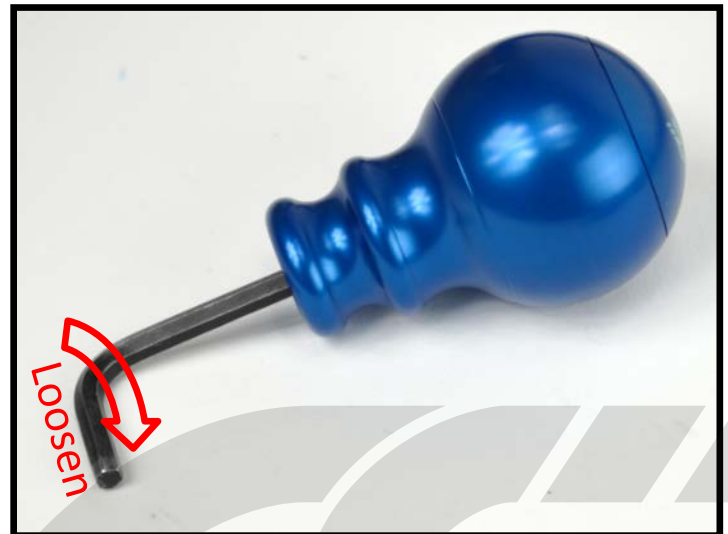

Figure 1a
b) Unscrew the cap using a 5mm Allen wrench to start the cap unthreading. Finish unscrewing the cap by hand. **Figure 1a** show the how to use the Allen wrench. **Figure 1b** shows the point you should start using your hand.